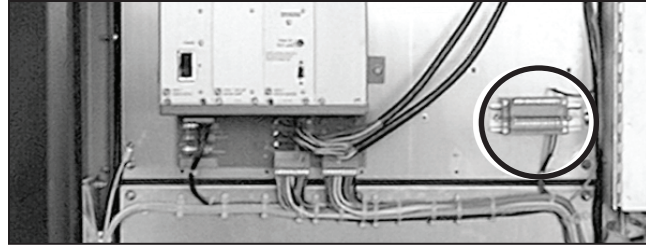

Figure 125. Attach the ground wires to the terminal block.
- (f) There will be up to three pairs of ground wires, VS-G1 and VS-G2, that are included in the main enclosure. See your wiring diagram for details. Attach the ground wires to the terminal block specified in the drawings provided, and fully tighten the set screws. See Figure 125.